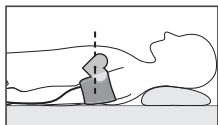

Fig. 5
2. You can measure the blood pressure lying on the back. Look at the ceiling, keep quiet and do not move during measurement. Be sure that the cuff is placed approximately at the level of your heart (Fig. 5).